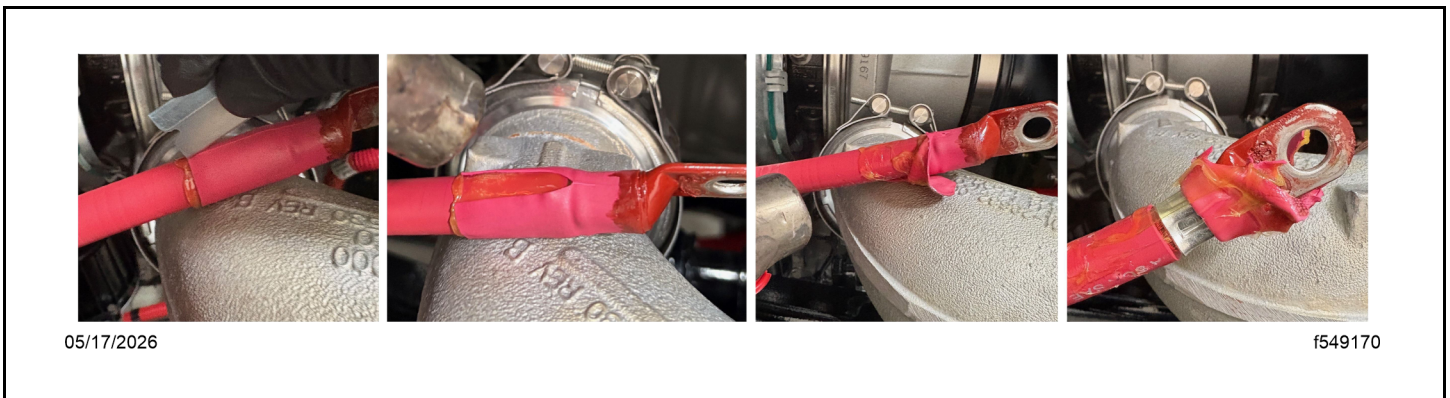

Fig 13, Heat Shrink Removal
- b. Remove the original heat shrink. To do so, heat it, score it, and continue to heat it until the score splits and the adhesive softens. See Fig. Fig. 13.